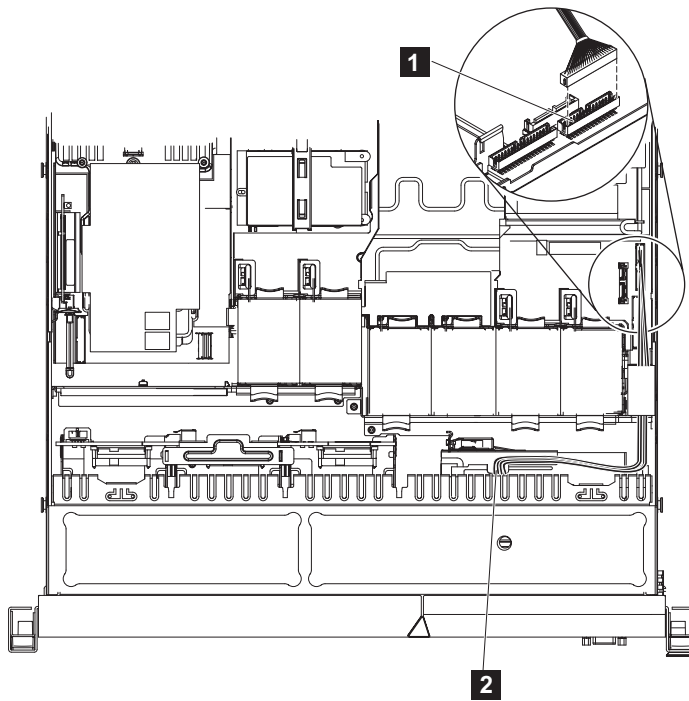

Figure 230. Disconnecting the SAN Volume Controller 2145-CG8 or 2145-CF8 operator-information panel cable
3. Disconnect the cable from the connector above the Video/USB cable connector on the right side of the node, as shown in Figure 230 on page 231.